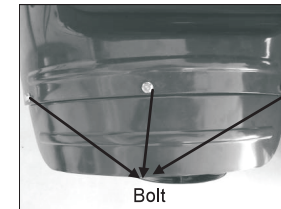
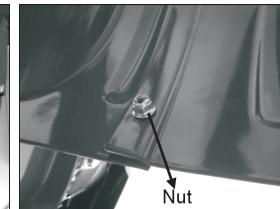

Fig. 6A
Fig. 6B
1. Fix the fender into the unit body with bolts and nuts. (Fig. 6A/ Fig. 6B)